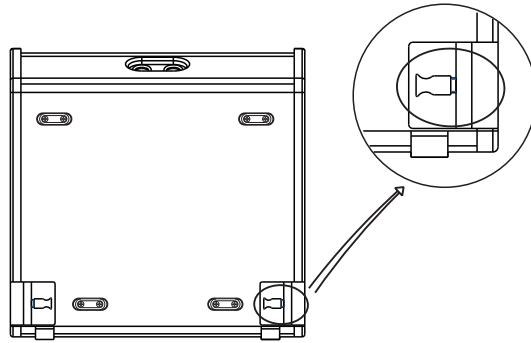
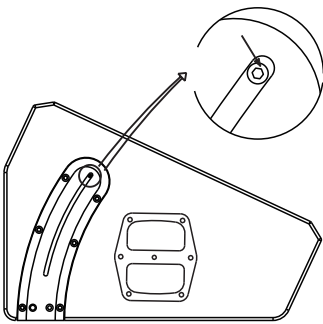
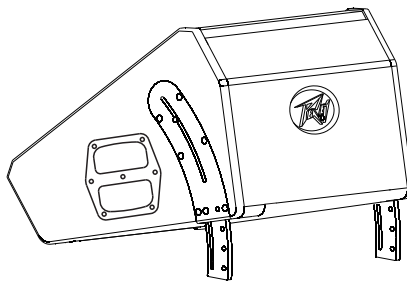
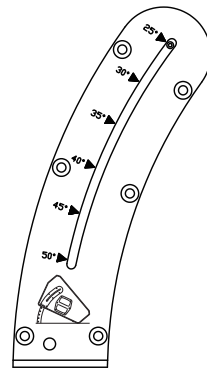

Figure 1
Figure 2
Figure 3
Figure 4
1、 There is a locking push pins on the inner side of the bottom of the cabinet, and the locking push pins is pulled outward, as shown in Fig. 1.
2、 Move the screw on the chute on both sides of the cabinet, as shown in Fig. 2; refer to the angle shown in Fig. 4, slide to the appropriate angle, and release the lock pin of Fig. 1, the final result is shown in Fig. 3.